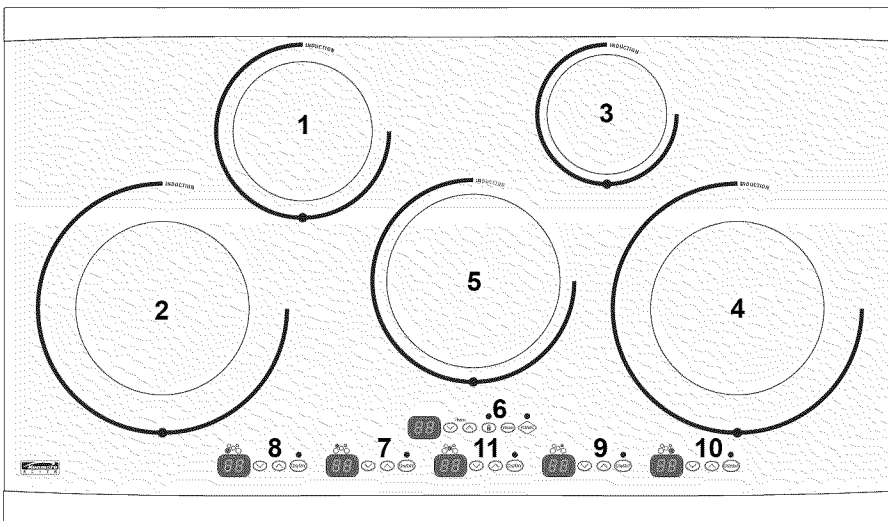

Fig. 2 - 36" Model
11. Center Cooking Zone Control Pads (Fig. 2 only)